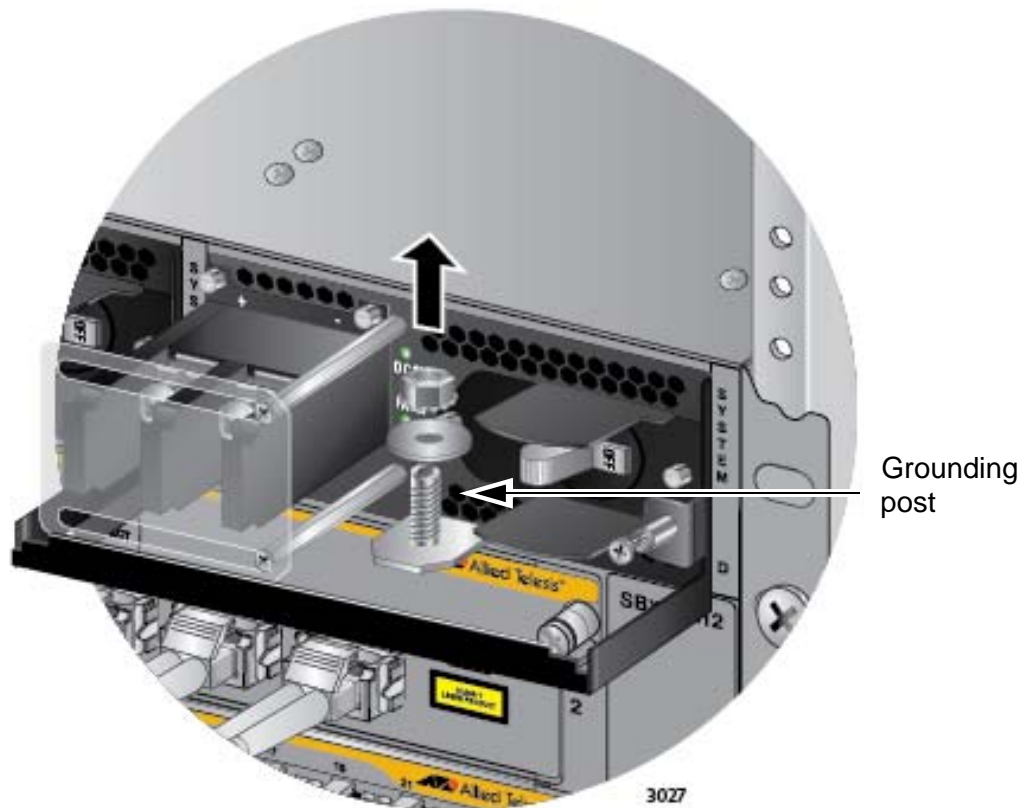

Figure 123. Removing the Nut and Washer from the Grounding Post
3. Use an 8 mm wrench to remove the grounding post nut and washer, shown in Figure 123, from the power supply.
2. Use an 8 mm wrench to remove the grounding post nut and washer, shown in Figure 123 on page 199, from the grounding post on the power supply.